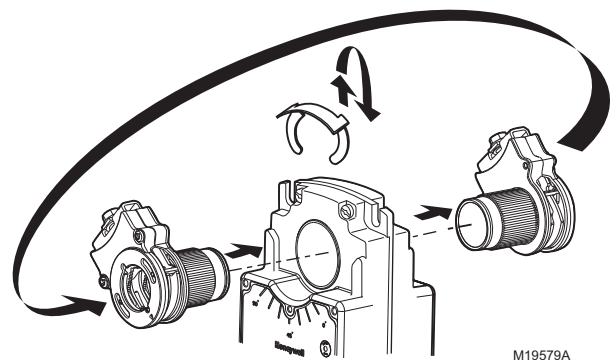

Fig. 42. Mounting shaft coupling to actuator opposite side.
- (1) Reposition reverse/direct acting switch, or
- (2) Remount actuator on the bracket.
- d. Move the actuator coupling to the opposite side of the actuator, as displayed in Fig. 42.
- (1) Remove the retainer clip from the shaft coupling and set it aside for later use.
- (2) Remove shaft coupling from one side of the actuator.
- (3) Replace the shaft coupling on the opposite side of the actuator, aligning it based on the stroke labelling.
- (4) Replace the retainer clip on the shaft coupling using the groove of the coupling.